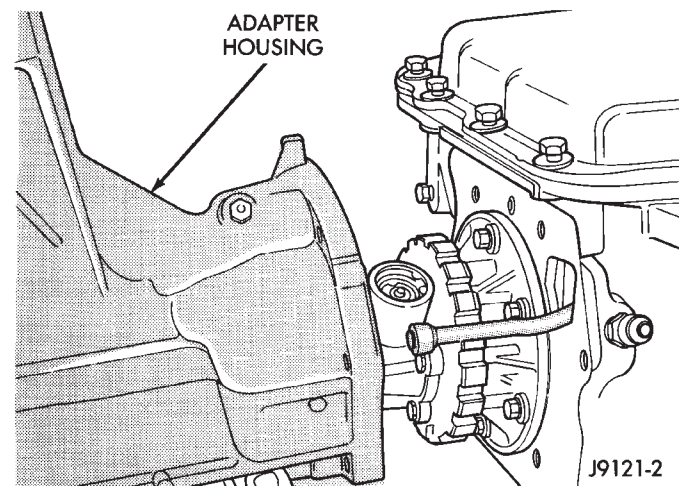

Fig. 2 Adapter Housing Removal/Installation (4 x 4 Models)
- (4) Remove nuts attaching adapter, or extension housing to transmission case.
- (5) Remove adapter/extension housing and gasket (Fig. 2).
- (6) Remove rear bearing and snap ring, if equipped.